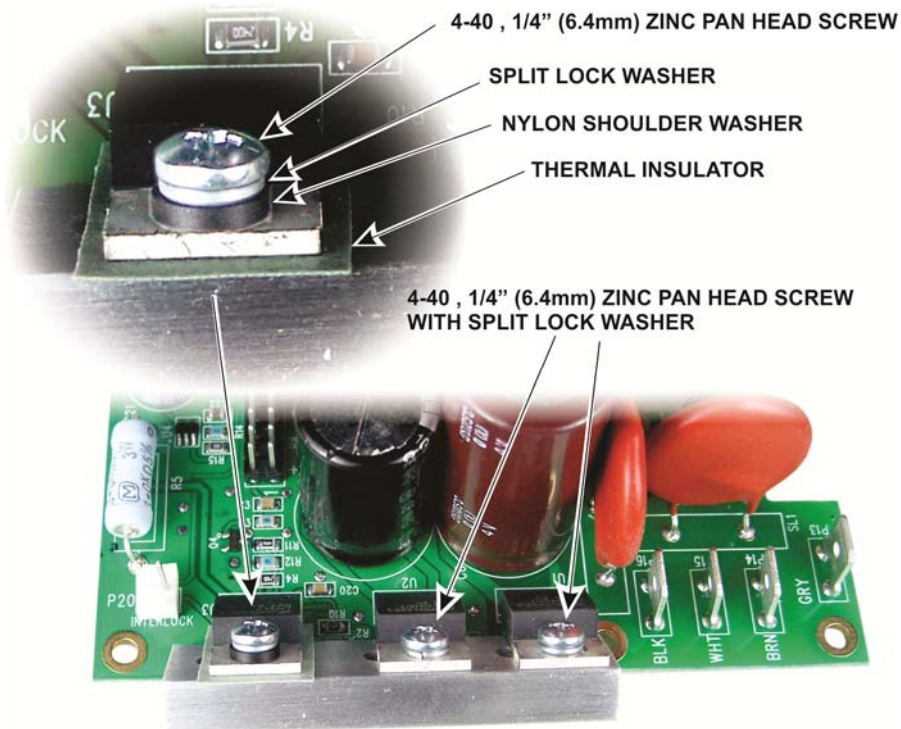

Figure 10. Mounting the Heat Spreader on the Power Supply Module.
□ Attach the heat spreader to the three I.C.s as shown in Figure 10. Bend the I.C. leads as shown to allow you to use a screwdriver to tighten the screws. Be sure to install the nylon shoulder washer in the hole of U3 (the I.C. with the thermal insulator) so the screw does not touch any part of the metal tab. Do not over-tighten the screw; you can crush the shoulder washer.